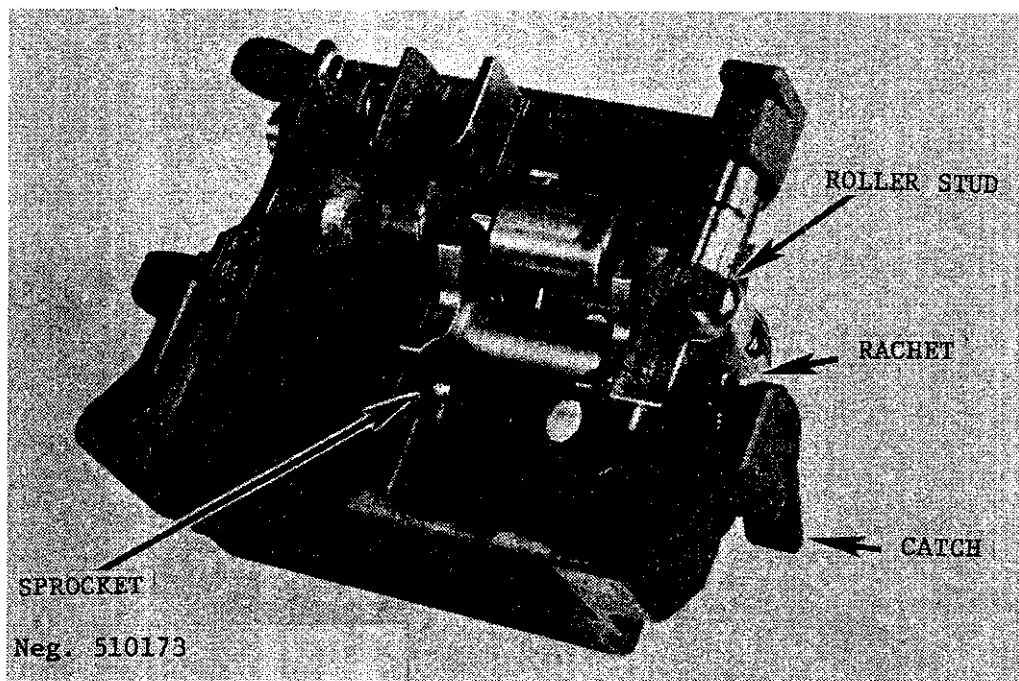

Figure 174. HK 21A1 feeder mechanism.
b. The bolt carrier of the HK 21 and HK 21A1 has a diagonal slot cut across its bottom side to actuate the belt feeder. As the bolt carrier recoils and counterrecoils, this slot causes a roller stud in the feeder (fig 174) to move from side to side. This side-to-side movement actuates a ratchet mechanism on the end of the sprocket (fig 174) to revolve the sprocket. A pawl prevents counterrotation and, as the sprocket rotates, it places fresh cartridges in position for the bolt feed rib to pick up and bring into the chamber.